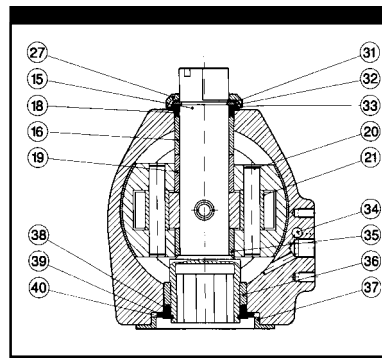

Figure 2 - Top Side
Refer to Figures 2 & 3
The shaft O-rings (18) & (38) and the support washers (33) & (39) can easily be replaced. Refer to figure 2.
2. Remove circlip locking rings (31) & (40).
Refer to figures 2 & 3